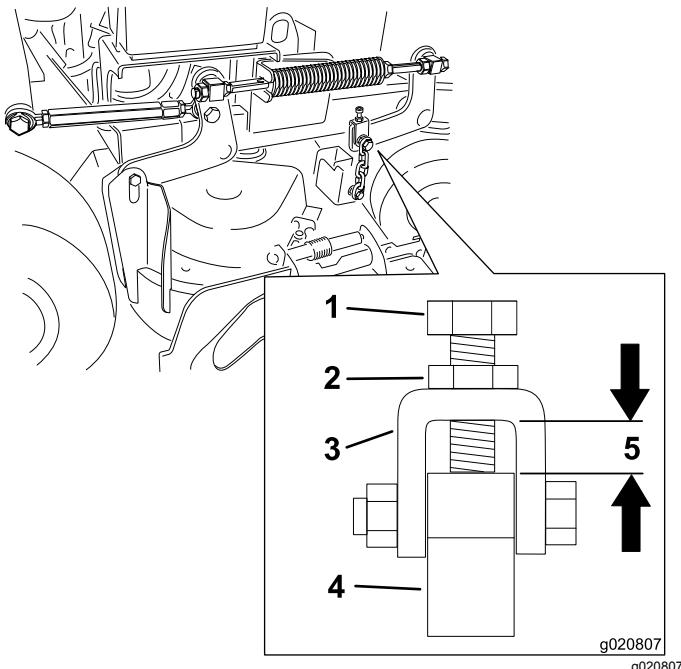

Figure 81
Note: This distance needs to be 11 mm (7/16 inch) as shown in Figure 81.
7. Loosen the jam nut and adjust the adjustment bolt to achieve the correct distance as shown in Figure 81.